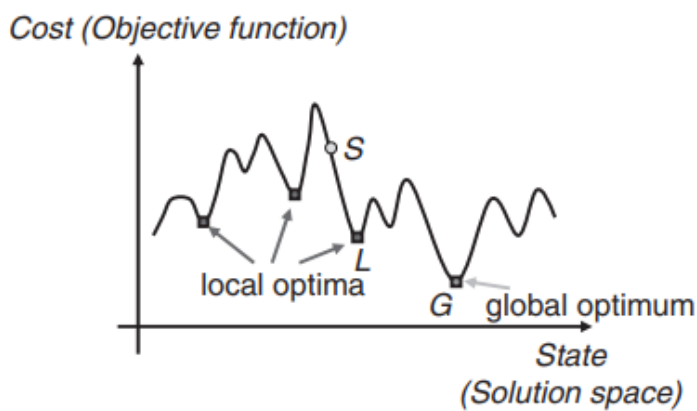

Figure 1: Illustration of the Simulated Annealing Process
The python implementation also follows the **Simulated Annealing(SA) Approach** described in the section 10.2 in the reference2, but with some simplifications. The SA approach is a meta-heuristic optimization method popular used in *NP-hard* combinational problems such as floor plan and resource scheduling problems where the solution space is huge and non-analytic. It can easily incorporate the constraints and the optimization goal during the search for the sub-optimal solutions. Fig. 1 is an illustration of the SA process. During the iteration in the solution space, many local optima will be encountered, the advantage of the SA is that it can up-hill and climb over the local optimal in order to search for better optimal after hill climbing.